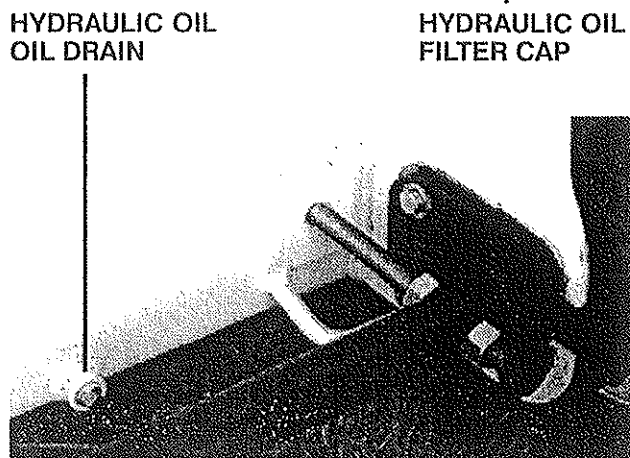

FIGURE 28
1. Remove the oil drain plug. See **Figure 28**, and drain the oil. Remove the oil cap to ensure a better flow.
1. With the engine stopped, unscrew and remove the old oil filter, see **Figure 28**.
To obtain proper chain tension, adjust the 4 tensioning nuts, (2 each side) to move the front axle forward or backwards. See **Figure 28**.